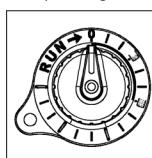

Fig 5.1B
- Grinder is equipped with a 5 minutes timer. (Fig 5.1B)